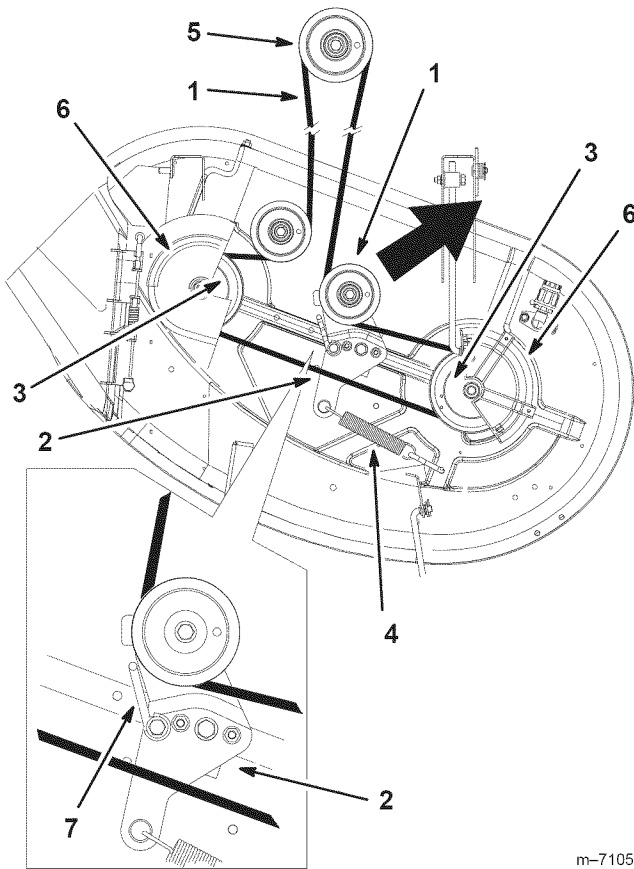

Figure 42
- Remove the belt covers over the outside spindles and loosen the belt guide (Fig. 42).
- Pull the idler pulley in the direction shown in Figure 42 and roll the belt off of the pulleys.
6. Route the new belt around the engine pulley and mower pulleys (Fig. 42).
7. Pull the idler pulley in the direction shown in Figure 42 and route the belt onto the idler pulley (Fig. 42).
8. Rotate the belt guide, on the idler arm, towards the pulley until it stops (Fig. 42).
9. Tighten the belt guide (Fig. 42).